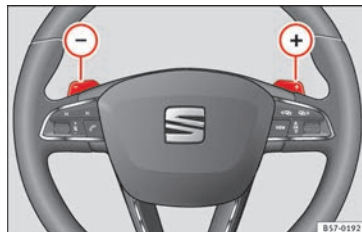

Fig. 184 Steering wheel: automatic gearbox levers
- Press the gearshift paddle  to select a higher gear » **Fig. 184.**